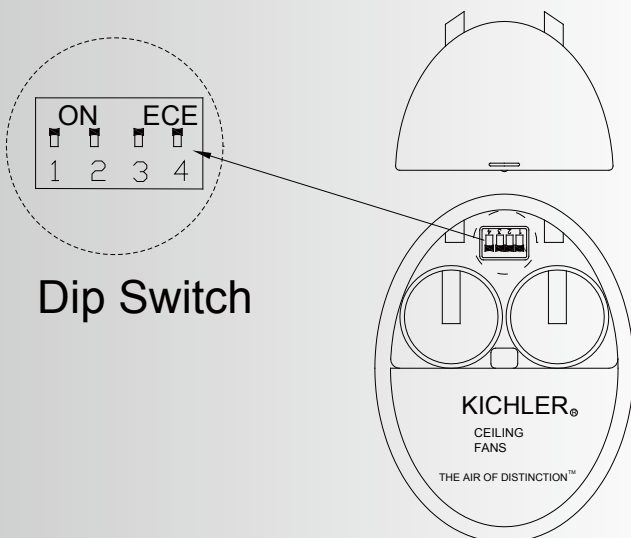

Fig. 28
Step 3. You can leave the frequency switches at the factory setting or move them to any combination of up or down. Use a small flat bladed screwdriver to move the switches. (Fig. 28)